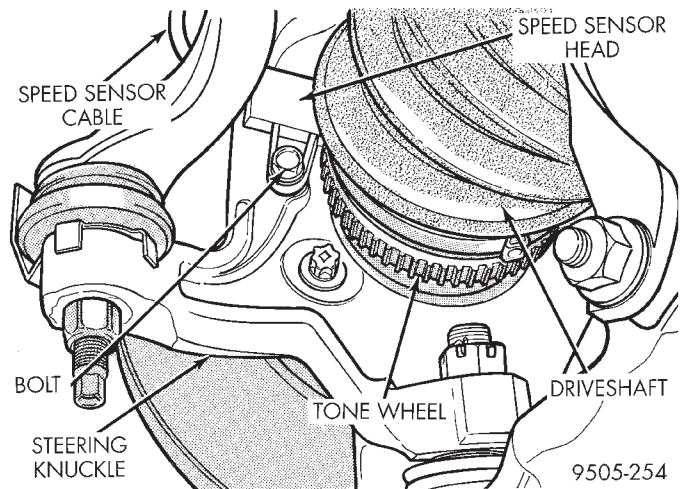

Fig. 41 Speed Sensor Head Attachment To Steering Knuckle
- (5) Remove bolt (Fig. 41) attaching speed sensor to steering knuckle. Then remove speed sensor head from steering knuckle